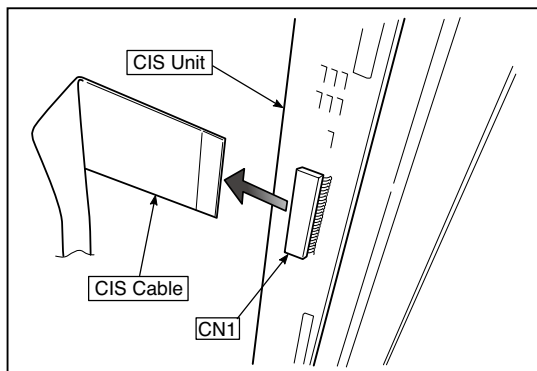

Fig.19
- Remove the "S-2" screws shown in the figures19 and 20 and then remove the CIS Unit.